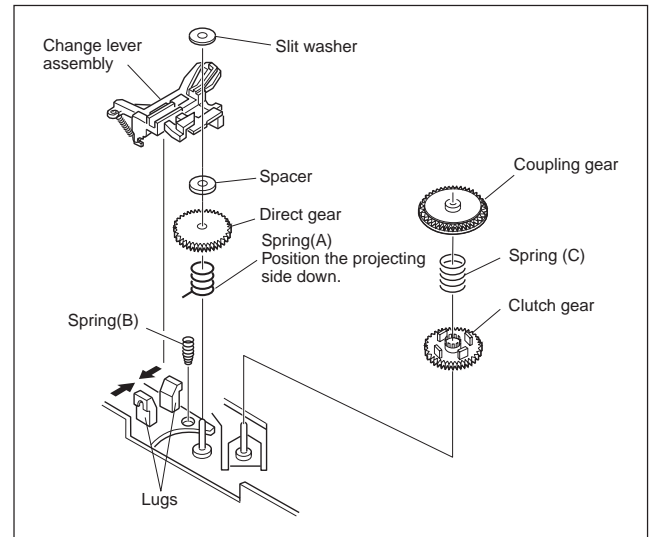

Fig.3-2-12a
- (1) Release the two lugs of the rotary encoder guide in the arrow-indicated direction and remove the change lever assembly.
- (2) Remove the slit washer retaining the direct gear and remove the latter. Take care so as not to lose the washer and spring. (See Fig.3-2-12a.)
- (1) Install the clutch gear, spring (A), spring (C), direct gear, spacer and others to the individual shafts of the main deck, and finally the slit washer. (See Fig.3-2-12a.)